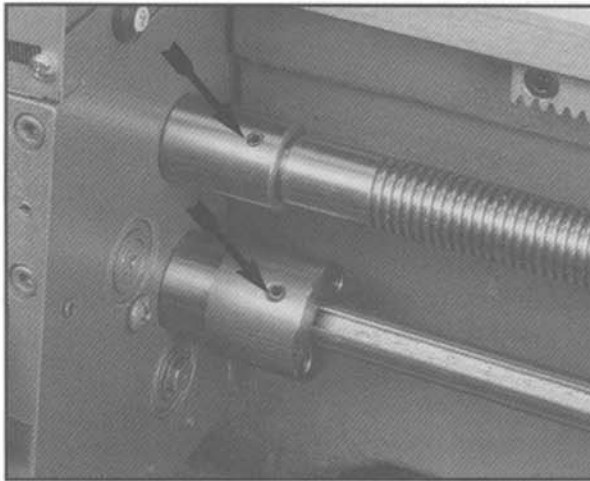

Figure 7
4. Both the **LEAD SCREW** and the **FEED SHAFT** are secured to their drive hubs by roll pins. Use a small pin punch to drive the pins out. See Figure 7.